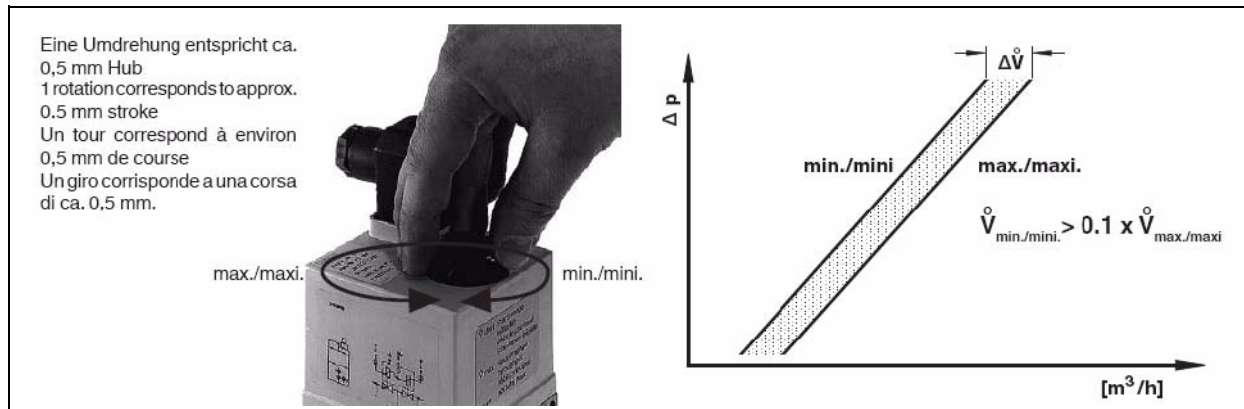

Figure 4A Pilot Valve Flow adjustment
- f. Adjustment is on pilot solenoid valve. (See Figure 4A.)